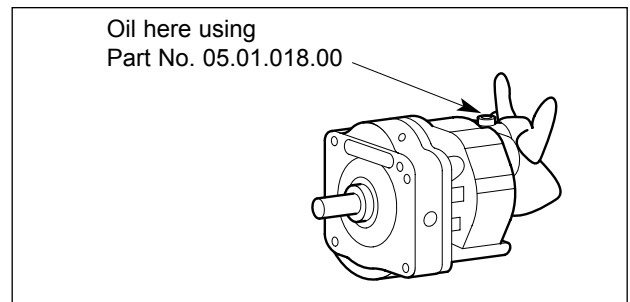

Figure 9. Lubricating Gear Motor Bearing
- Lubricate the bearing by applying 10-12 drops of Mobil SHC 624 lubricant (Hatco part no. 05.01.018.00) to the bearing. See Figure 9.